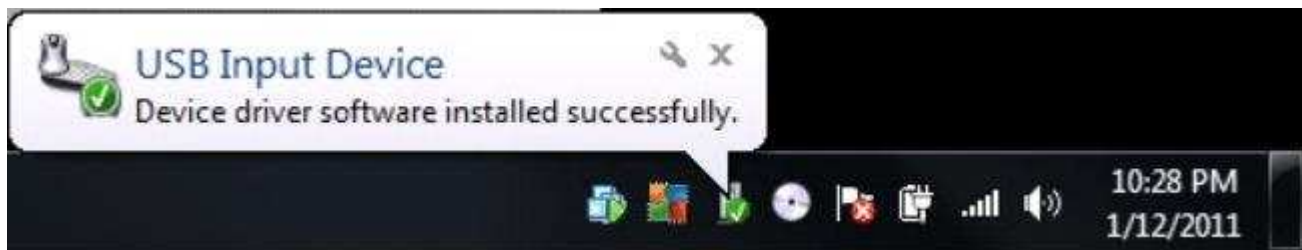

Figure 19. Confirmation of USB-to-I2C Converter Driver Installation
9. Browse to the firmware file name is *USB2ANY_F5528.txt* version v2.7.16. The firmware image is programmed, and the TMP117EVM restarts automatically. The new firmware is now ready to use as shown in Figure 19.
1. Connect the TMP117EVM to a USB port on a PC as shown in Figure 19.